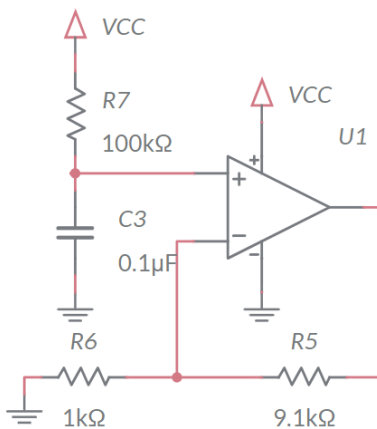

Figure 3: The Pseudo Ramp Generator circuit.
When plotted as a function of time, a ramp function has a constant slope measured as  $\frac{\Delta V}{\Delta t}$ . The term “Pseudo” is introduced into the name because the circuit to be built, shown in Figure 3, does not have a constant slope; it changes slightly as shown in Figure 1. To understand this further, let’s start the analysis of this circuit.
The analysis begins by recognizing the op amp configuration in Figure 3 is a non-inverting configuration. The resistors R5 and R6 form the feedback network. Note, the 9.1k resistor is formed from the parallel combination of 10k and 100k resistors. Why not just use a single 9.1k resistor? Two words, *inventory management* – it’s easier to manage the inventory of 1k and 100k resistors that are used in all sorts of PCBs, then it is to stock a wide variety of odd-ball resistor values that used just once.
1. Determine the gain of the non-inverting op amp in Figure 3.
2. Determine the time constant for the RC network on the non-inverting input of the op amp in Figure 3. Remember that no current flows into an op amp input.
So, the output of the op amp in Figure 3 is the familiar exponential charging of an RC circuit. But how on earth will this be used to generate the ramp shape shown in Figure 1? Well, if we limit the charging to the very beginning of the exponential function, then we may get a sufficiently close to a straight line. In order to do this, we will need to limit the charging of the capacitor in Figure 3. We will do this by periodically removing the charge off the capacitor using the same technique used in the Deboo Integrator.
Let's compare the exponential curve against a straight line using the rampVsCharge.xlsx spreadsheet posted on the Canvas page. When you open the spreadsheet, its contents will look like Figure 5. You need to complete two tasks with this spreadsheet. First, enter the equation for the charging capacitor in (R7 and C3 in Figure 3) the green cells. Second, adjust the value of Delta V in the orange cell to best match the charging capacitor.
- The **Time** values in column B are times in seconds. Note that the column spans 0us to 888us which is the charging time of the capacitor C3 in Figure 3. Each row is the Time column is Delta T larger than the row above it. The value of Delta T is set in cell C2. Don't change this value!